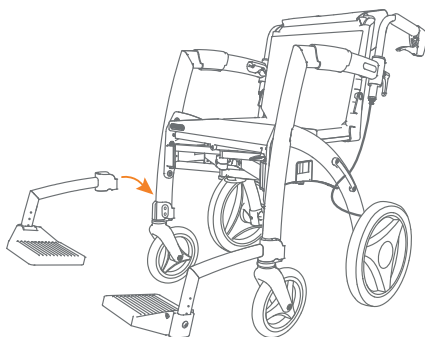

Figure 39: Place the footrests.
- e. Take the footrests out of the transport chair bag and place them at the front of the Rollz Motion, into the footrest holders on the frame. Slide them down from the top of the footrest holders (**Figure 39**). Do not apply force if the footrests do not slide smoothly over the footrest holders. Take them out and try again.